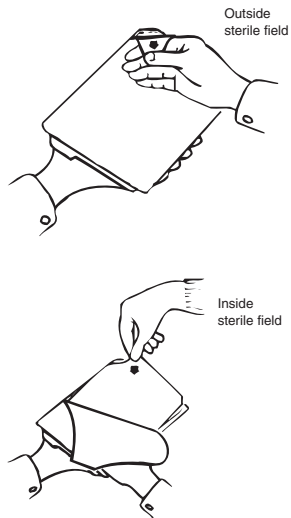

Figure 2. Opening the Sterile Package
- **Opening the Package.** If interrogation of the device in its sterile packaging indicates normal functioning, remove it from the package. The package's outer tray can be opened in nonsterile surroundings. However, when opening the inner tray, complete sterile technique must be observed (Figure 2).